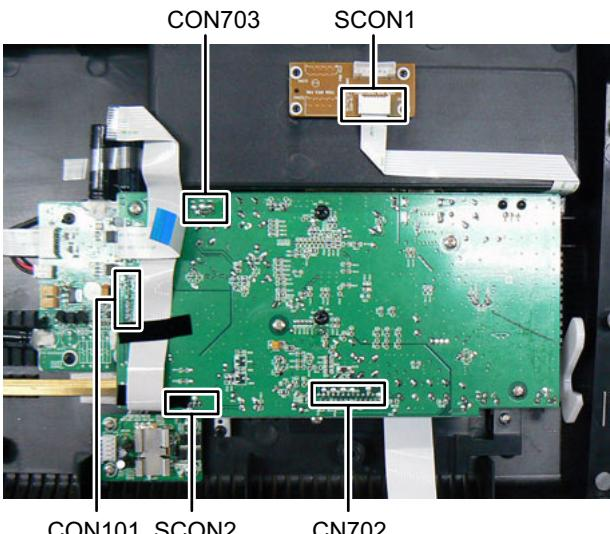

Fig.8
- (2) Disconnect the card wire from DVD MPEG board connected to connector SCON1 of the UPGRADE board. (See Fig.8)
- (3) Disconnect the connector wire from DVD VCC board connected to connector SCON2 of the DVD MPEG board. (See Fig.8)
- (4) Disconnect the card wire from Main board connected to connector CN702 of the DVD MPEG board. (See Fig.8)
- (5) Disconnect the connector wire from Main board connected to connector CON101 of the DVD MPEG board. (See Fig.8)
- (6) Disconnect the connector wire from USB board connected to connector CON703 of the DVD MPEG board. (See Fig.8)